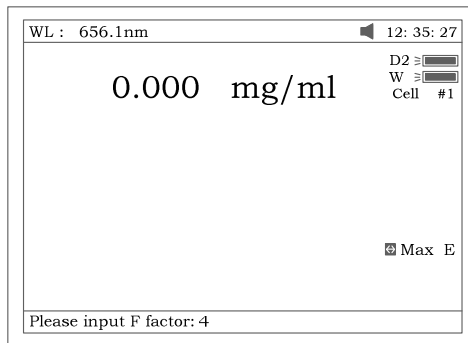

Fig 23
- 4.1 Press **【F3】** to input known F value, Fig 23. Then push the sample into